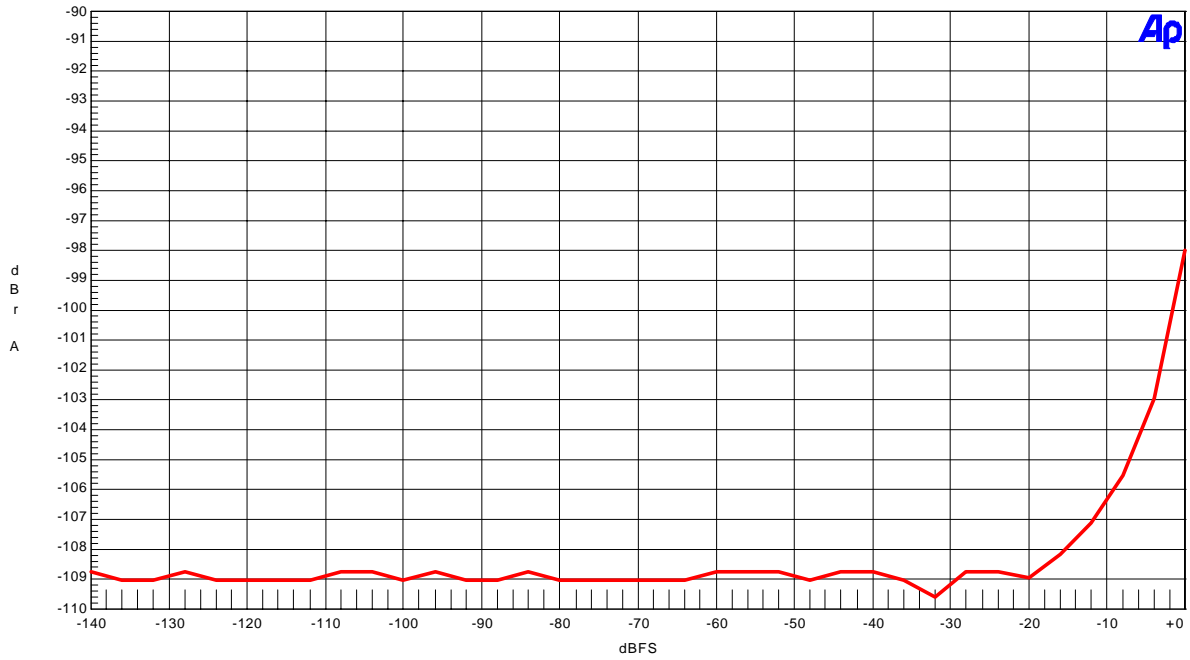

Figure 10. THD+N vs Input Level (fin=1kHz)
- Figure 10. THD+N vs Input Level (fin=1kHz)